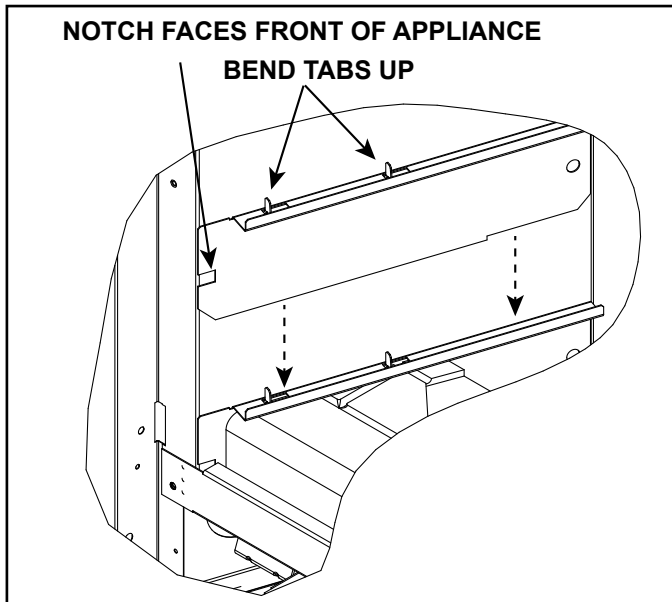
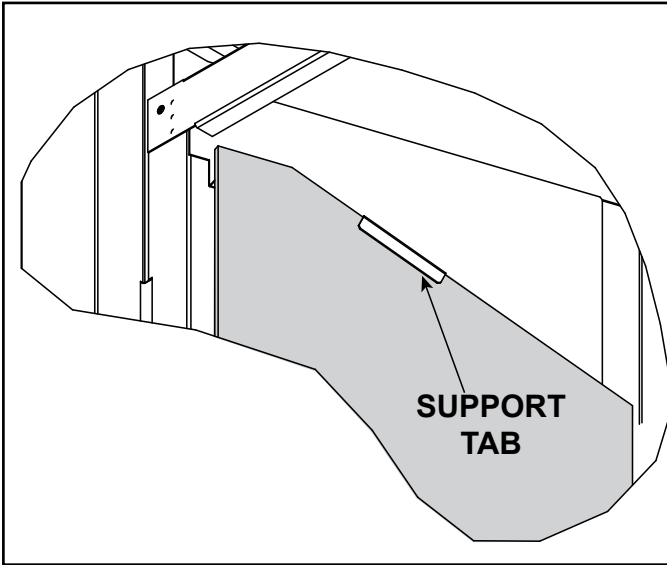

Figure 11.7 Install Lower Glass Bracket (Left Side Shown)
Figure 11.15 Install Left Glass Panel
1. Remove lower glass brackets from the top refractory packaging. Break brackets apart and bend "up" hand bend features. See Figure 11.7.
Install left and right lower glass brackets by installing them between the outer edges of the left and right hearth pieces with the notch facing the front of the appliance. These pieces will fit tightly between the hearth sides and the firebox. See Figure 11.7.
7. Install left glass panel by inserting the glass panel from the front. Slide panel into the bottom glass bracket between the bent up tab and return bend as shown in Figure 11.7. This will create a gap between the glass and the firebox. Slide the panel back until it contacts the rear glass panel. Ensure that the support tab shown in Figure 11.15 is bent “down” on each upper glass bracket to secure left/right glass panels. Repeat Step 7 for right glass panel installation.